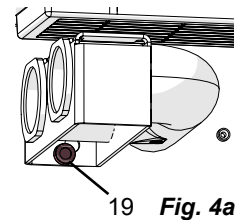

Fig. 4a
- ⇒ Unscrew the knurled head screw (19, Fig. 4a).
- ⇒ Fix the holder in place with the knurled head screw (19, Fig. 4a).